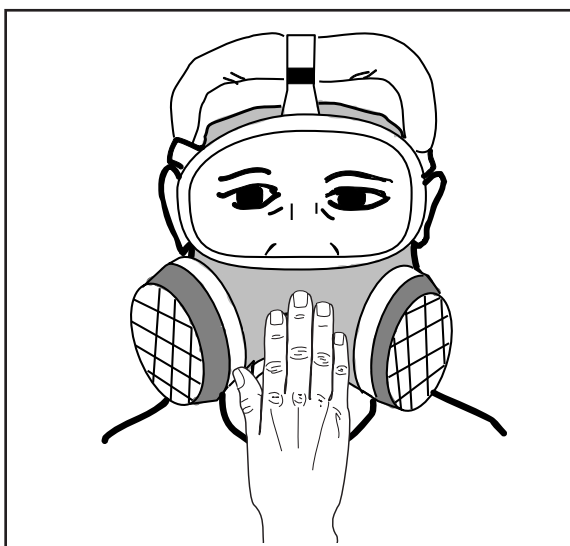

Figure 4-4. Positive pressure seal check.
1. Cover the exhalation valve of the respirator (Figure 4-4).